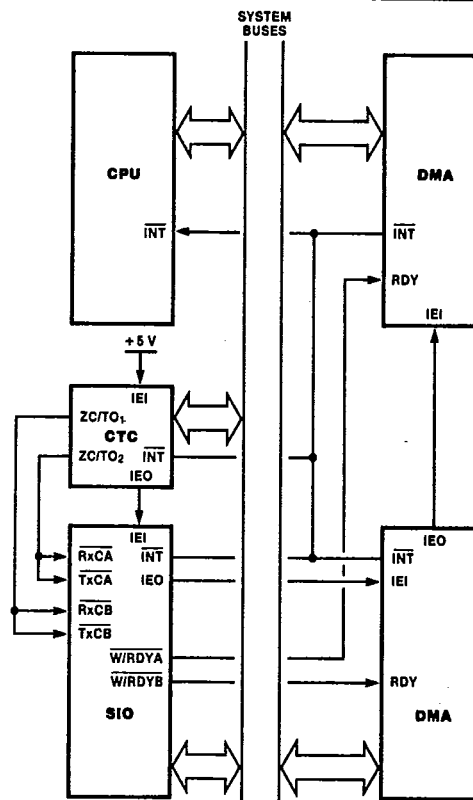

Figure 11. Typical Z80 Environment
In a Z80 CPU environment (Figure 11), SIO interrupt vectoring is "automatic:" the SIO passes its internally-modifiable 8-bit interrupt vector to the CPU, which adds an additional 8 bits from its interrupt-vector (I) register to form the memory address of the interrupt-routine table. This table contains the address of the beginning of the interrupt routine itself. The process entails an indirect transfer of CPU control to the interrupt routine, so that the next instruction executed after an interrupt acknowledgment by the CPU is the first instruction of the interrupt routine itself.